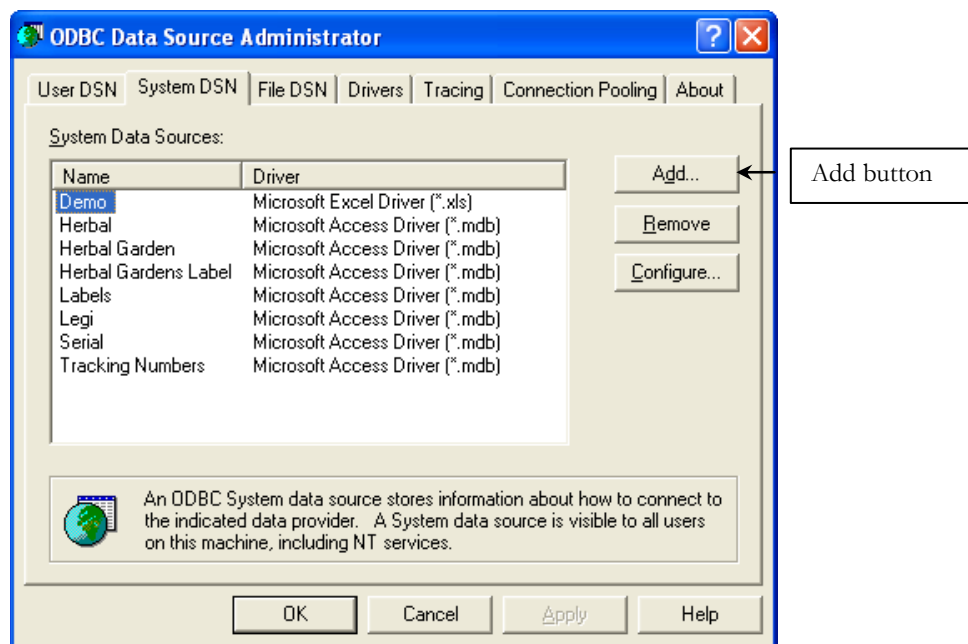

Figure 41
49. Select the System DSN tab and click [Add] (Figure 41)